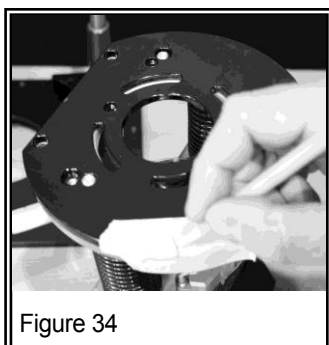

Figure 34
2. Turn the router upside down and transfer this alignment mark to the router's sub-base (see Figure 34).